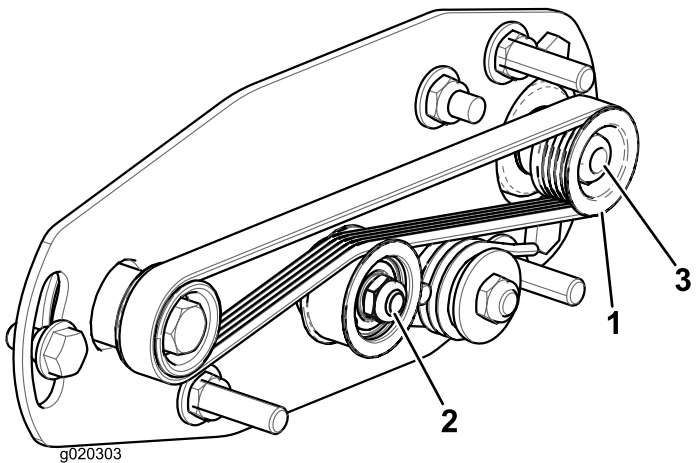
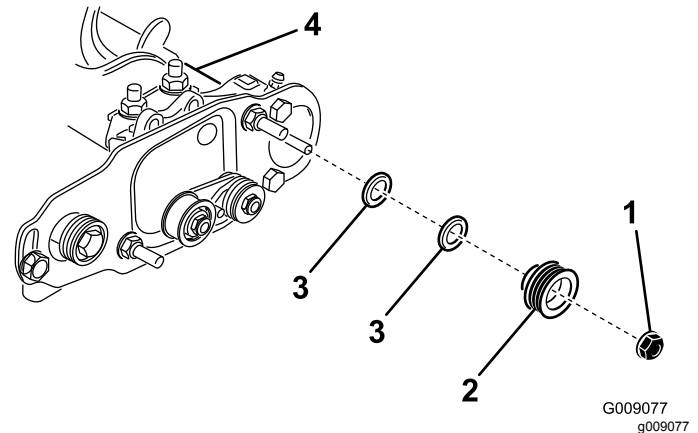

Figure 33
Figure 34
1. The driven pulley (at roller brush shaft) can move in or out (Figure 33).
2. While rotating the reel, which will rotate the drive pulley, pry the belt off the drive pulley (Figure 33).
3. Remove the lock nut securing the driven pulley to the brush shaft (Figure 33 or Figure 34).
4. Remove the driven pulley from the shaft (Figure 34).
Note: If the pulley needs to move out, add one 0.8 mm (0.032 inch) thick spacer (Figure 34). If the pulley needs to move in, remove the existing 0.8 mm (0.032 inch) thick spacer.